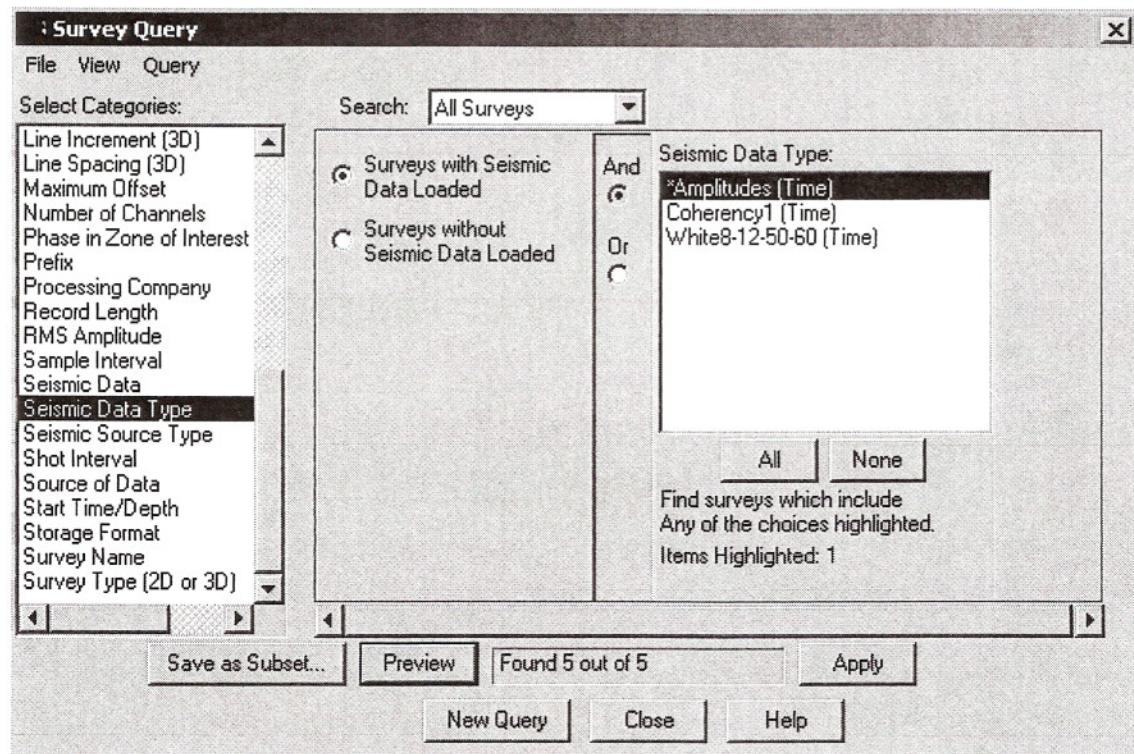

Figure 1.9 — Survey Query dialog box with compound query
1. Select **Surveys > Select Surveys to Display > By Query...** to open the **Survey Query** dialog box (Figure 1.9).